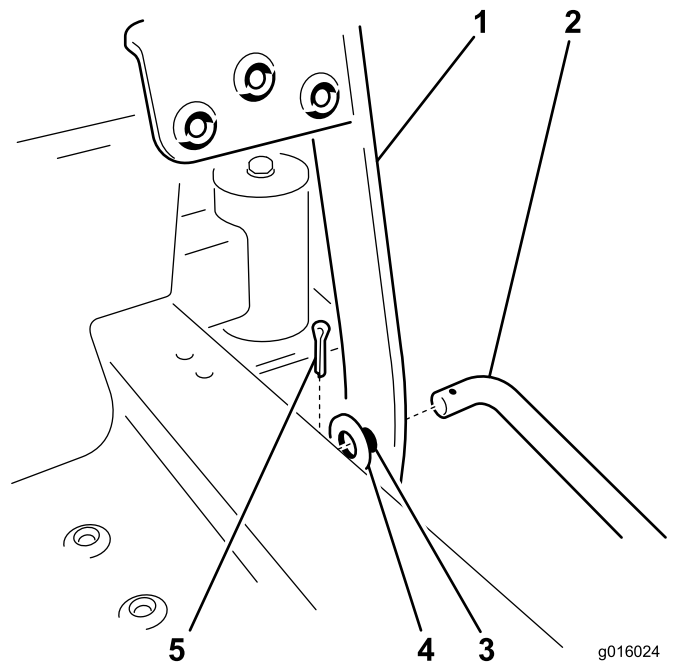

Figure 7
3. Secure the pedal with a flat washer (ID 17/32 inch) and cotter pin (Figure 7).
4. At the front of the machine, install the bent end of the lift rod through the small hole in the pedal arm (Figure 7). Install a washer over the protruding end and secure it with a cotter pin.